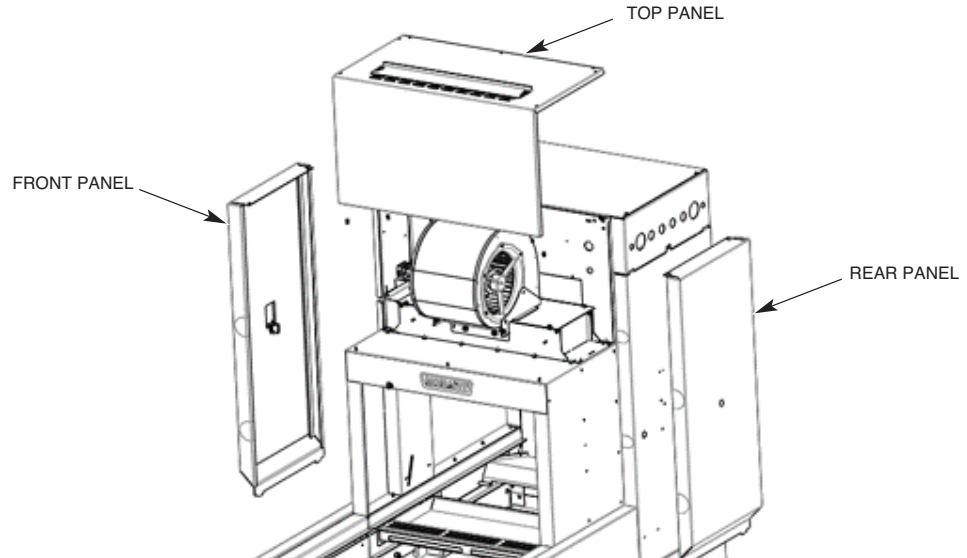

Fig. 23
1. Remove the blower dryer cover panels; front, rear, and top (Fig. 23).